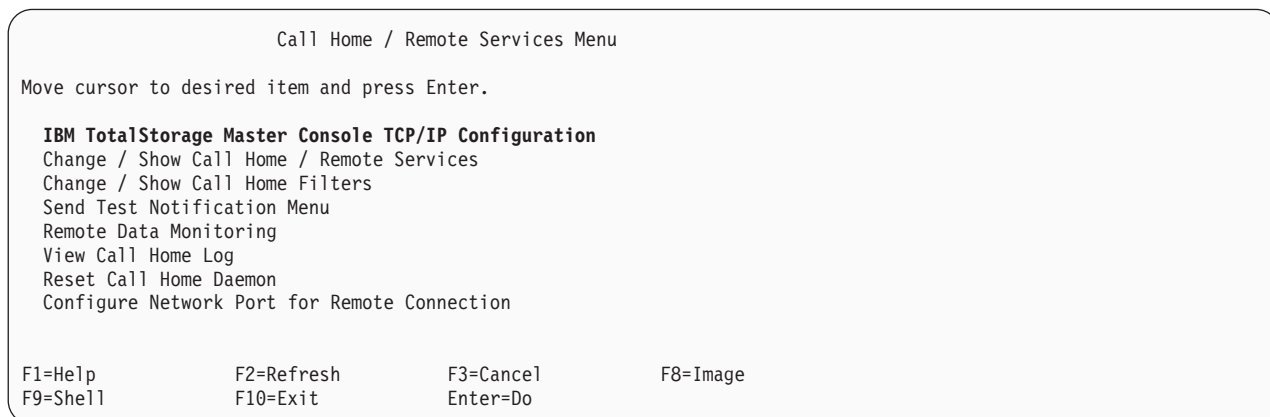

Figure 2-10. Call Home / Remote Services Menu – TCP/IP Configuration
7. Press **F3** to return to Figure 2-10 on page 2-13. Select Change / Show Call Home / Remote Services. Figure 2-12 displays.
9. Press **F3** to return to Figure 2-10 on page 2-13. Select **Remote Data Monitoring**. Figure 2-13 displays.
11. Press **F3** to return to Figure 2-10 on page 2-13. If more attached subsystems need configuration exit the EBTERM or NetTerm session and connect the net subsystem.